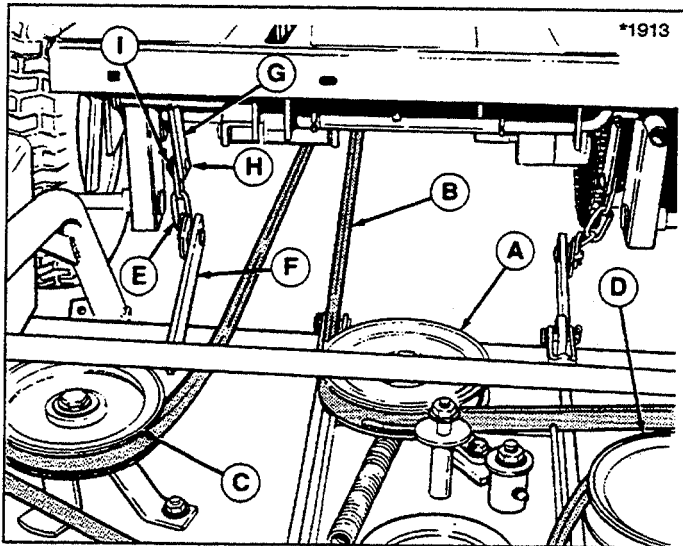

Figure 39. Removing Belt Tension
3. Remove belt from idler by pulling spring loaded idler pulley to gain slack in belt. See figure 39.
To avoid person injury, use caution when moving spring-loaded pulley (A, figure 39). Spring tension is strong. Do not remove belt (B) from spring-loaded idler pulley (A). Remove belt from left and right idler pulleys (C & D).
- Pull spring-loaded idler pulley back to gain slack, and install belt on idler pulley. See figure 39.